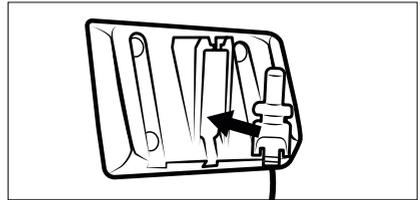

Fig. 4
- 1) Insert the barrel plug 11 of the mains adapter 10 into the wall bracket 18 (see Fig. 4). Secure the barrel plug 11 by turning it.